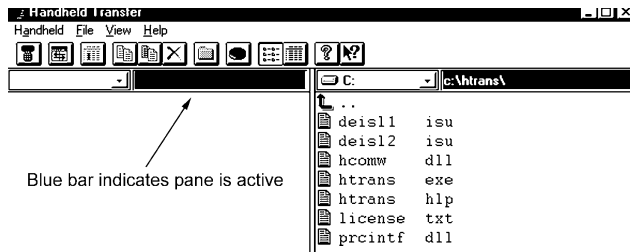

Figure A.4: Handheld Transfer Main Window
1. Double-click the **Handheld Transfer** icon on the PC. The main window appears, as shown in Figure A.4.